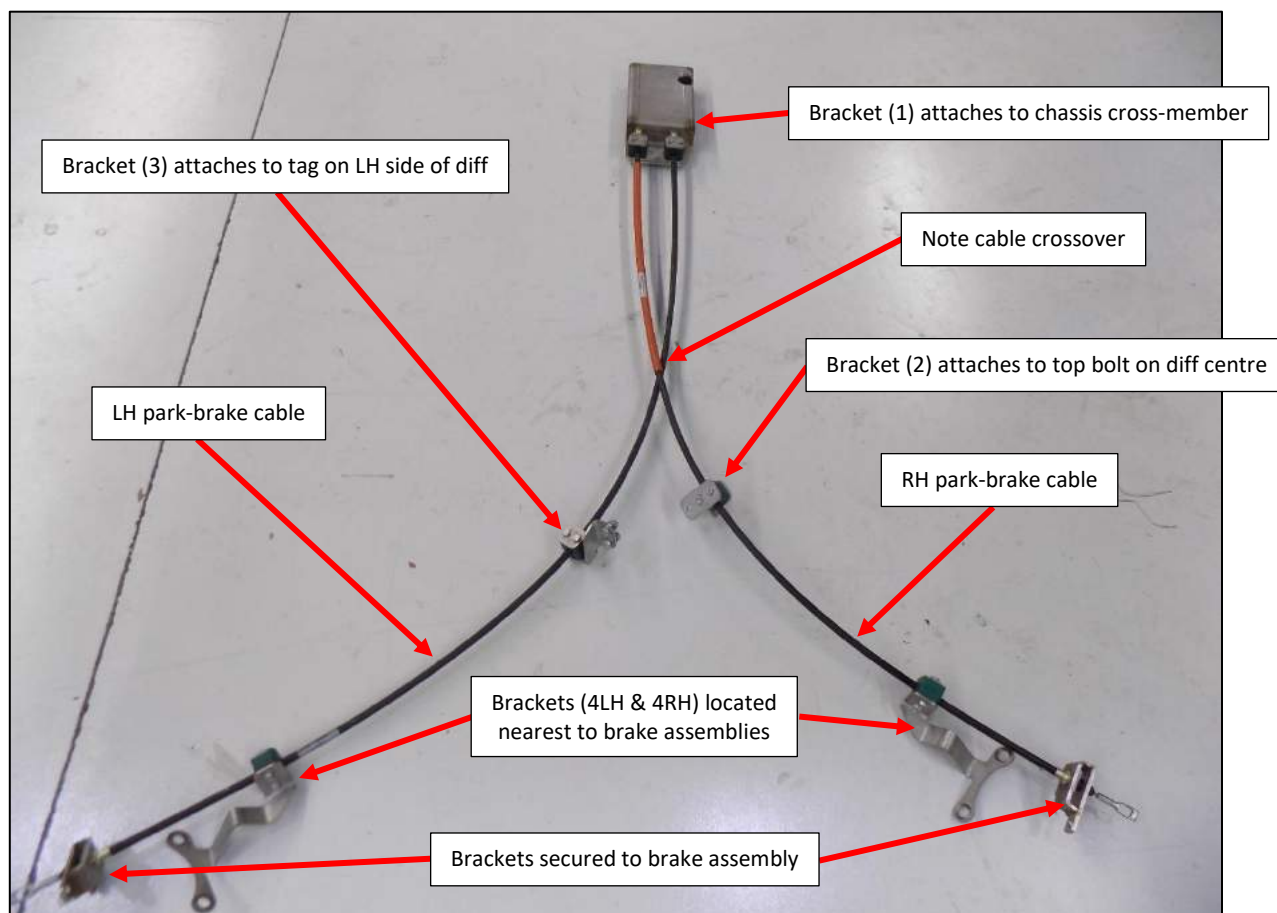

Figure 17
1. Remove the park-brake cable assembly parts from the kit and identify where each component will be installed on the vehicle (Figure 17). Brackets may vary depending on vehicle type. Ensure the correct steps are followed to suit the bracket types supplied in the kit.